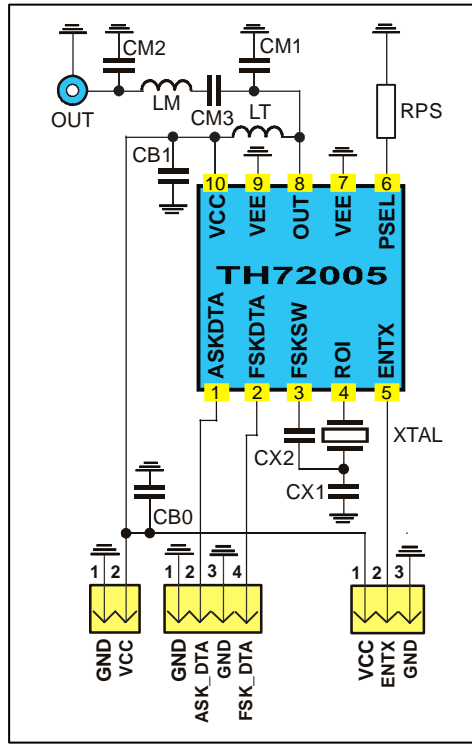

Fig. 18: Test circuit for FSK and ASK with 50 Ω matching network
typical values at  $T_A = 23\text{ }^\circ\text{C}$  and  $V_{CC} = 3\text{ V}$ ; test circuit shown in Fig. 18,  $f_c = 315\text{ MHz}$
- Data according to test circuit in Fig. 18
### 6.1 Test circuit component list to Fig. 18